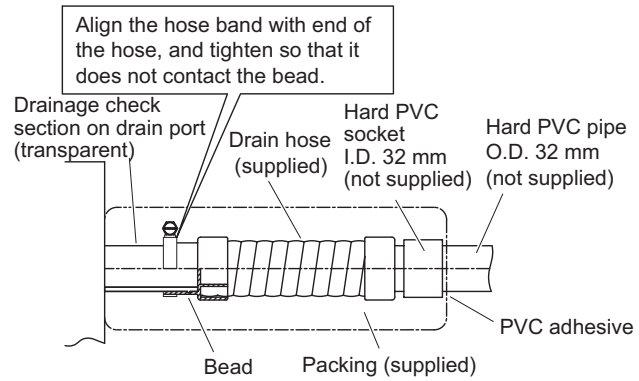

Fig. 2-148
The unit's transparent drain port allows you to check the drainage. (Fig. 2-148)
- Insert the drain pipe until it contacts the socket, as shown in Fig. 2-148, then secure it tightly with the hose band.
- Tighten the hose clamps so their locking nuts face upward. (Fig. 2-148)